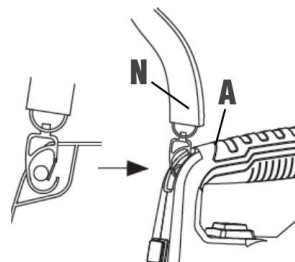

Fig. 1
1. Attach the strap (N) to the body (A) (Fig. 1).
2. Unscrew the container cup (D) from the gun (I).